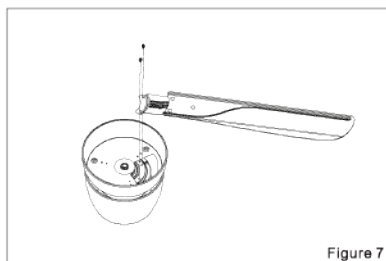

Figure 7
7. Install the fan blades and blade decorative plate by aligning the hales on the blade and plate with the hales on the fan motor assembly set by the provided set screws. (Figure 7)